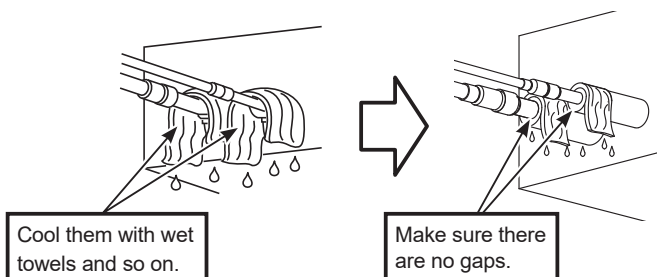

Fig. 6-1
- Before brazing the refrigerant piping, always wrap the piping on the main body, and the thermal insulation piping, with wet towels to prevent heat shrinkage and burning the thermal insulation tubing. Ensure that there are no gaps between the copper tubes and the wet towel. Take care to ensure that the flame does not come into contact with the main body itself. (Fig. 6-1)